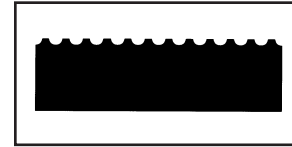

Fig. 153. Use the proper notched trowel.
- The recommended trowel notch size, 1/16" wide, 1/32" deep, 1/32" apart must be used** (Figure 153). Excessive amounts of adhesive applied with an improper trowel will delay drying time and can result in exudation (oozing up) of adhesive between tile in service. Insufficient coverage